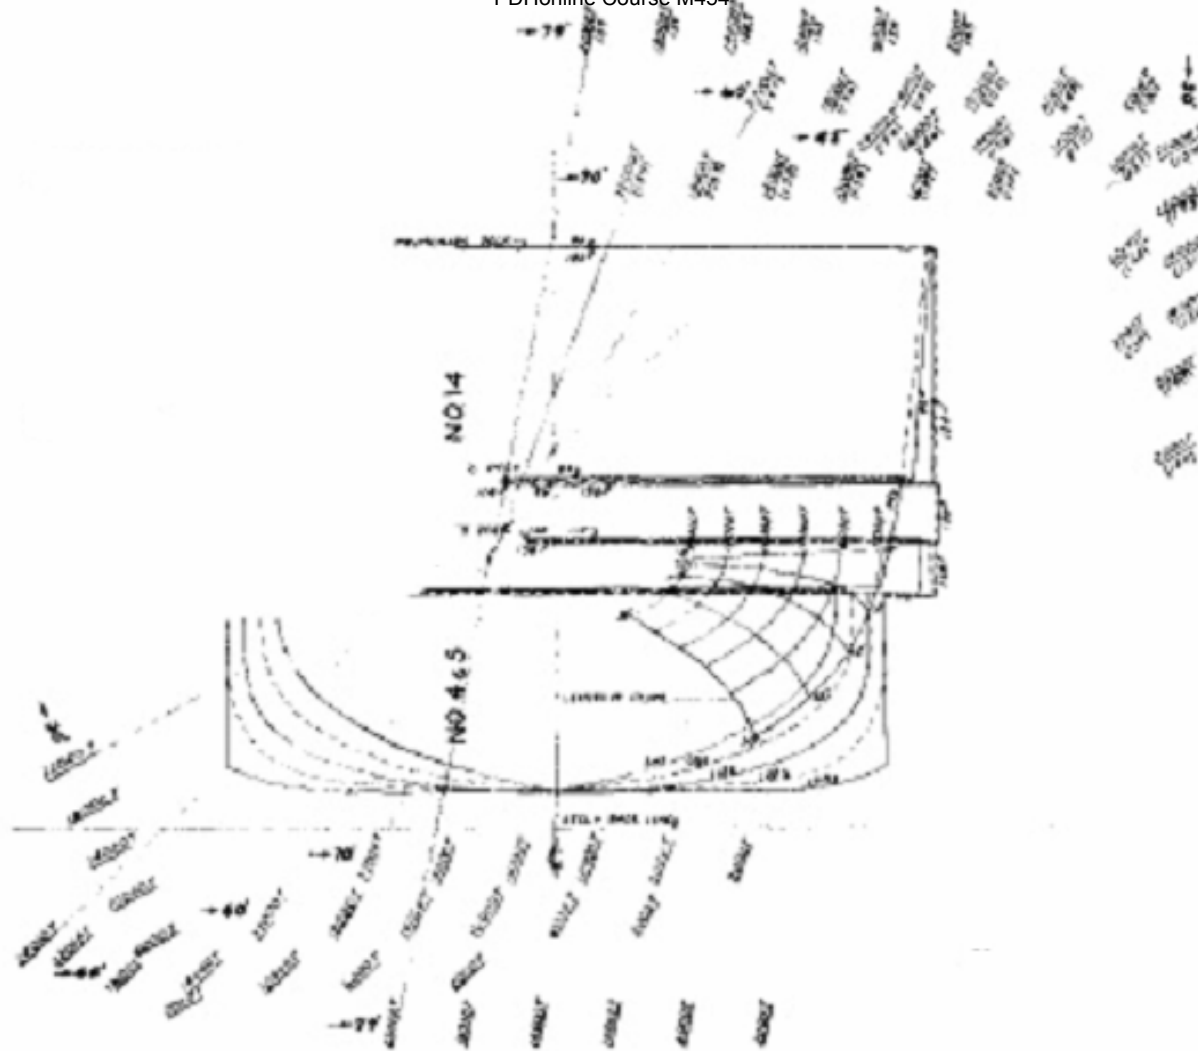

Figure 20
11. The center of gravity (i. e., center of gravity of ship and water inside) at any condition of dewatering of the compartments and any angle of heel was required both for preliminary studies and for use during righting operations. Time consuming calculations for the movement of the center of gravity of the ship were avoided by determining and plotting the centers of volume for each of the watertight compartments at a series of decreasing volumes and at various angles of heel. Figure 20 is a drawing showing the centers of volume of compartment 14-4-5. Also plotted and noted were the water lines and tons of water in the compartment to each water line. Drawings such as figure 20 were made for each of the compartments. The position of the center of gravity of the ship, then, for any condition was obtained by selecting from the drawings the number of tons of water in each compartment and the location of the center of each of the volumes. In order that the trim of the ship could be controlled as well as the list, the fore and aft locations of the center of gravity and buoyancy also had to be plotted in a manner similar to the above.